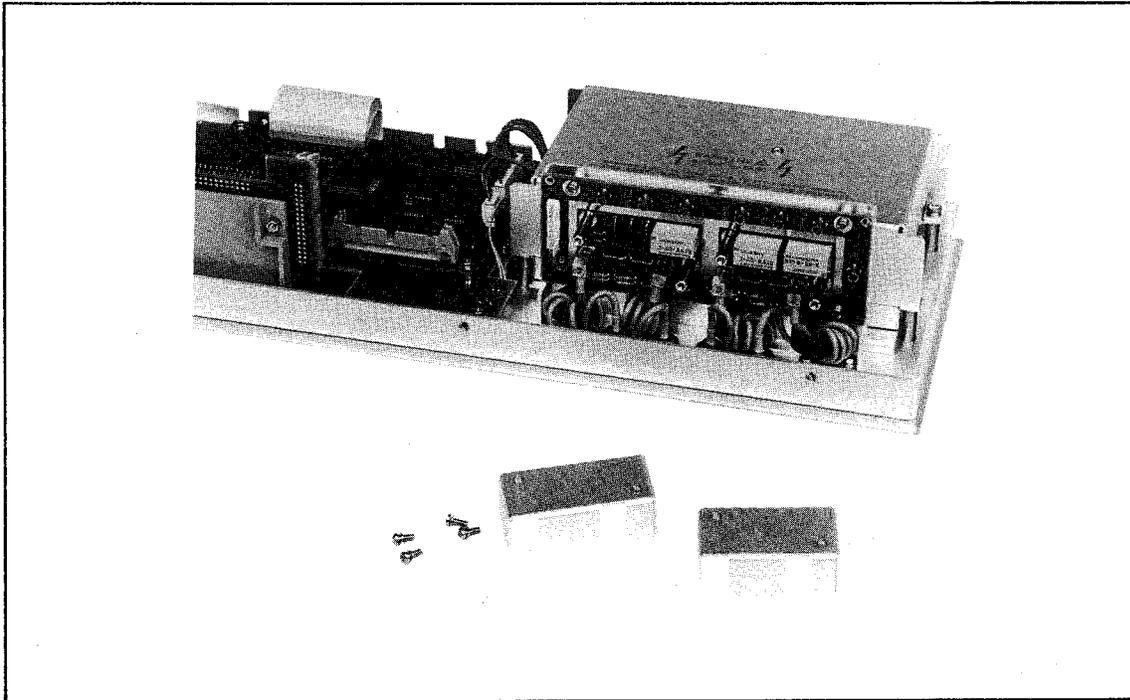

Figure 4-3. A8 Assembly Removal
2. Remove the two shield cases from the A8 assembly as shown in Figure 4-3.